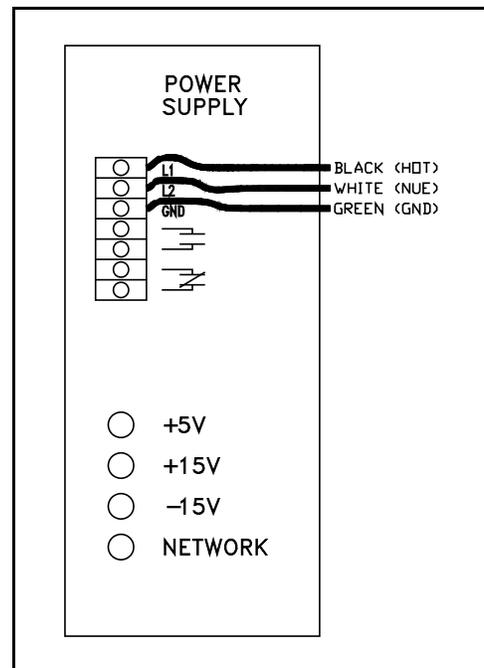

Figure 25. Power Supply Connections.
- 3) The terminals for the strain links are shown in Figure 25. The conductor of the strain link cables are to be connected to the channel terminals. The connections of the strain link cables to the channel terminals should be:
- 1) The terminal for the End Of Cycle cam switch is shown in Figure 25. To install the zeroing cam switch, connect a wire from the EOC terminal (End Of Cycle) on the Logic board to one side of the cam switch contact. If the System 1100 is grounded to the machine ground, the second side of the cam